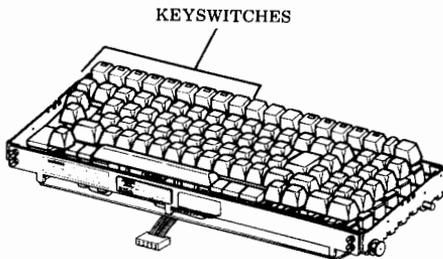

Fig. 12—Keyswitch Identification
- (a) Remove the Blocking, REC MSG WTG, KP, ALARM, FULL DUPLEX, INTRPT, TERM READY, TERM ON LINE and TERM LOCAL keytops. (See Fig. 12)